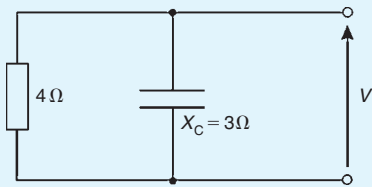

Figure 16.23
13. The magnitude of the impedance of the circuit shown in Fig. 16.23 is: